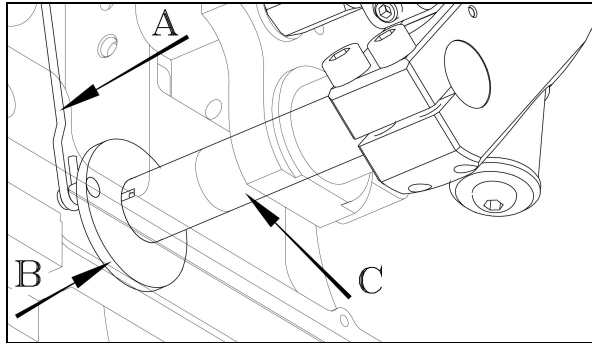

Fig 1
At the end of the sewing cycle the tension release pins (on P15), are controlled by the tension release wire (A) in Fig 1 above, the tension connector (B), and the rotation of the stop bolt shaft (C)